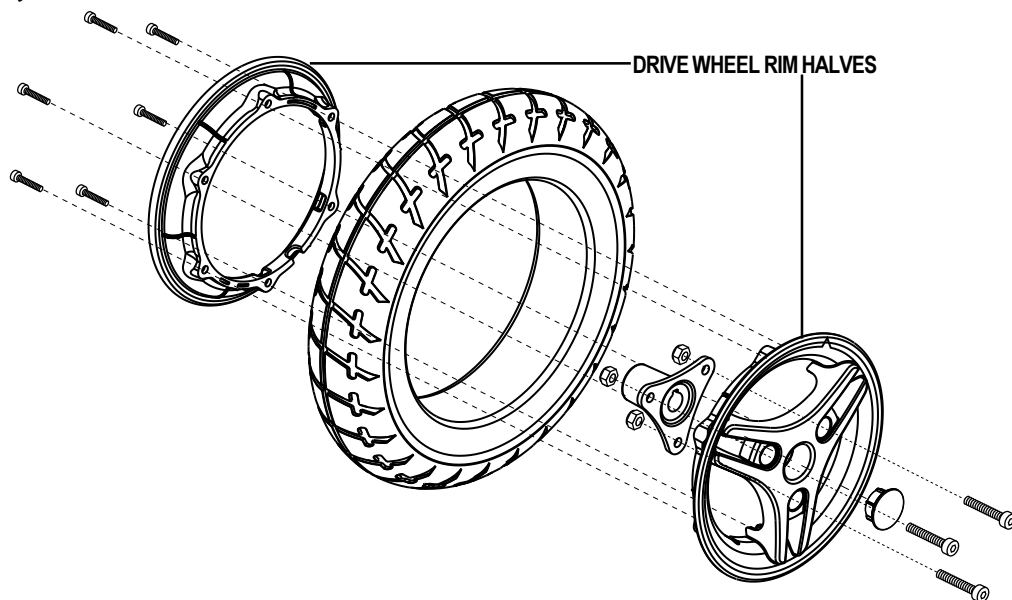

Figure 32. Jazzy 1133 Drive Wheel — Exploded View
7. Remove the fasteners that connect the two drive wheel rim halves together. See figure 32.